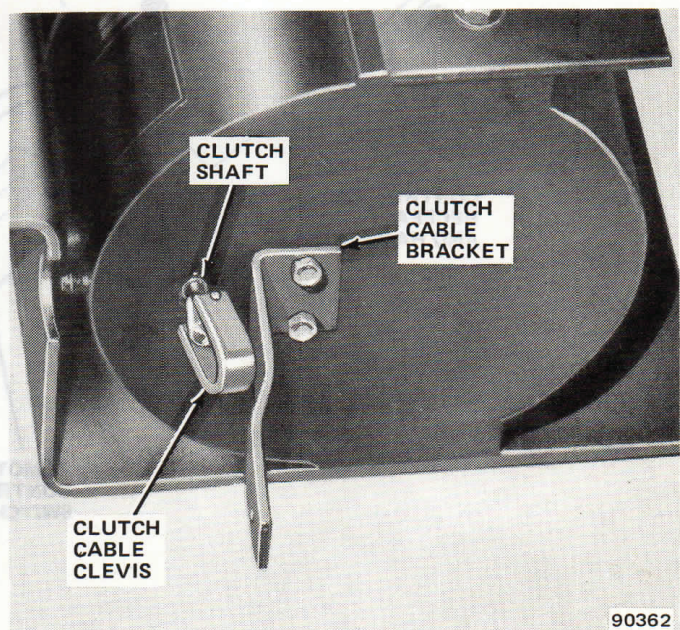

Fig. 5-16 Clutch Cable Clevis and Bracket Installation
(13) Install clutch cable clevis and clutch cable bracket (fig. 5-16). Attach clevis to shaft using retaining pin and attach bracket to winch using 1/4 x 3/4 self-tapping screws.